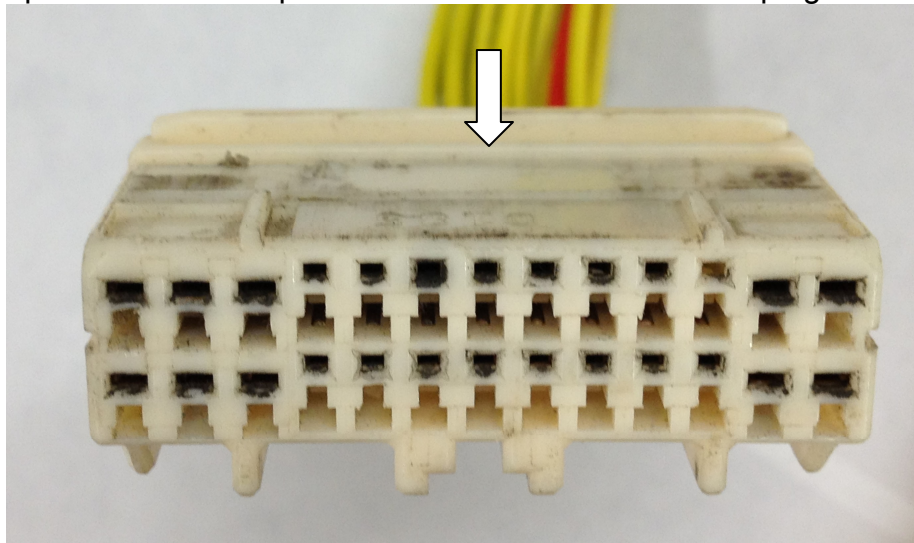

Figure 10: Ensure pin lock is relocked
6. Push the pin lock back into place until it is flush with the ECU plug as shown in figure 10: